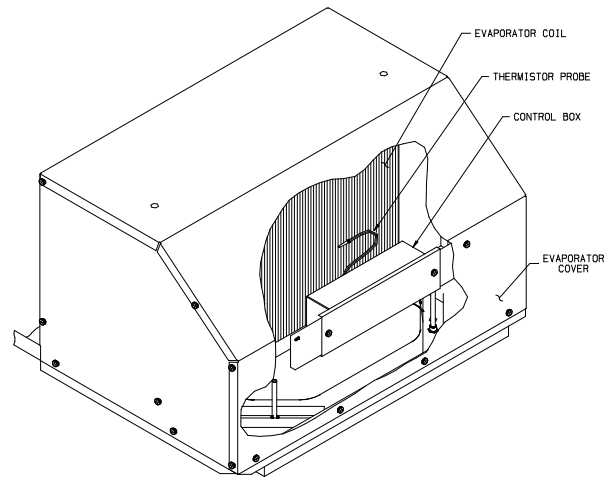

FIGURE 2
7. Insert the evaporator freeze sensor between evaporator fins near the bottom center of the evaporator and between the bottom two tubes (See Figure 2). Insert straight in until contacting the staggered tube directly in back of the insertion point. When contact has been made, elevate the exposed end of the sensor approximately 45 degrees, then continue insertion at a 45 degree angle until the sensor is completely embedded into the evaporator.
12. Insert the evaporator freeze sensor between evaporator fins near the bottom center of the evaporator and between the bottom two tubes (See Figure 2). Insert straight in until contacting the staggered tube directly in back of the insertion point. When contact has been made, elevate the exposed end of the sensor approximately 45 degrees, then